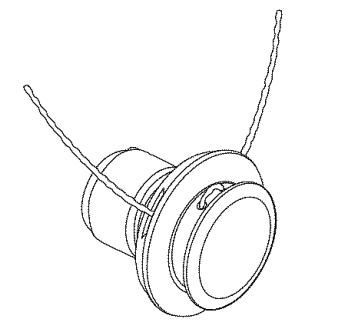

Fig. 12
CAUTION: Before operating this unit, be sure that the release button is fully snapped into the primary hole (Fig. 12), and that the knob (Fig. 13) is securely tightened.
6. Correctly installed line will be the same length on both sides (Fig. 12).